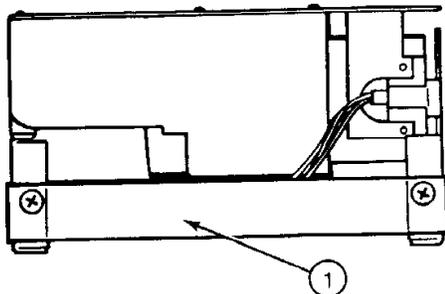

FIGURE 14
22. Turn the HDA around. If there is a metal bar across the front of the analog card as shown in Figure 14, Item 1 or over the top of the analog card, remove the large screw that holds this bar in place.